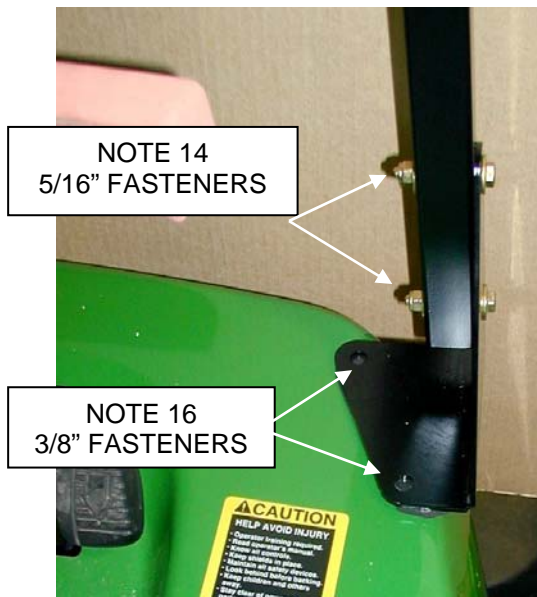

Figure 5
14. Secure front mounts with 5/16" fasteners and flat washers. See Figure 5.
16. Secure front lower mounts to tractor deck using 3/8" fasteners and flat washers. See Figure 5.